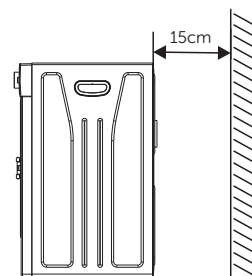

Fig1
- Ensure sufficient spacing is provided for the appliance to be installed. Leave space on back (15cm) to ensure proper ventilation.(Fig1)